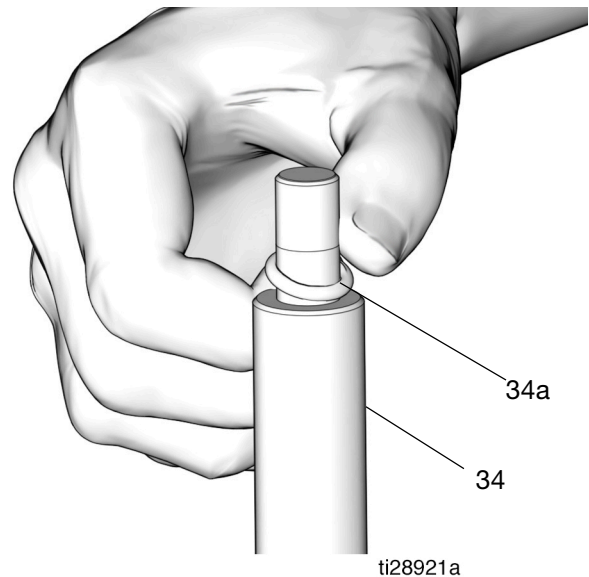

FIG. 24
24. Use a pick to remove the o-ring (34a) from the piston rod (34) (FIG. 24).